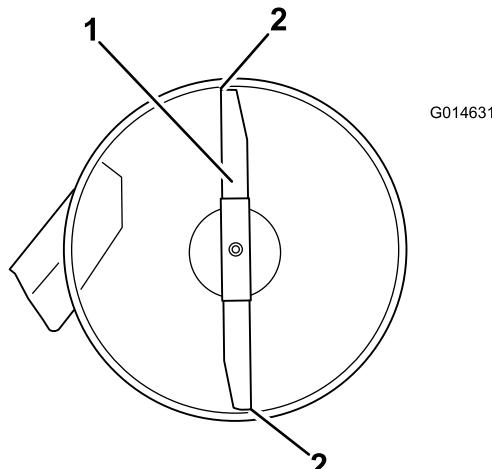

Figure 54
4. Carefully rotate the blades so they are facing front to rear (Figure 54).
5. Measure from the tip of the front blade to the flat surface and the tip of the rear blade to the flat surface (Figure 54).
- 9. After adjustment, check the front-to-rear slope again, continue adjusting the nut until the front blade tip is 1.6 to 7.9 mm (1/16 to 5/16 inch) lower than the rear blade tip (Figure 54).